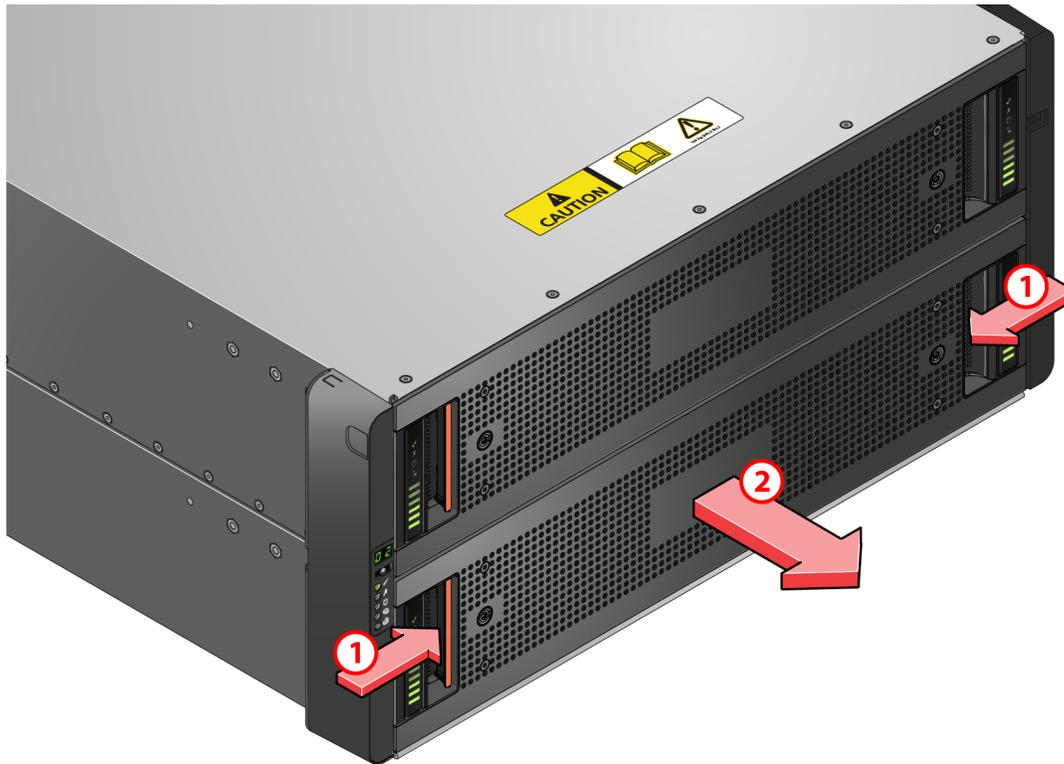

Figure 88. Opening the Bottom Drawer
2. Push the drawer latches inward and hold them. (See Figure 88 “Opening the Bottom Drawer” on page 85)